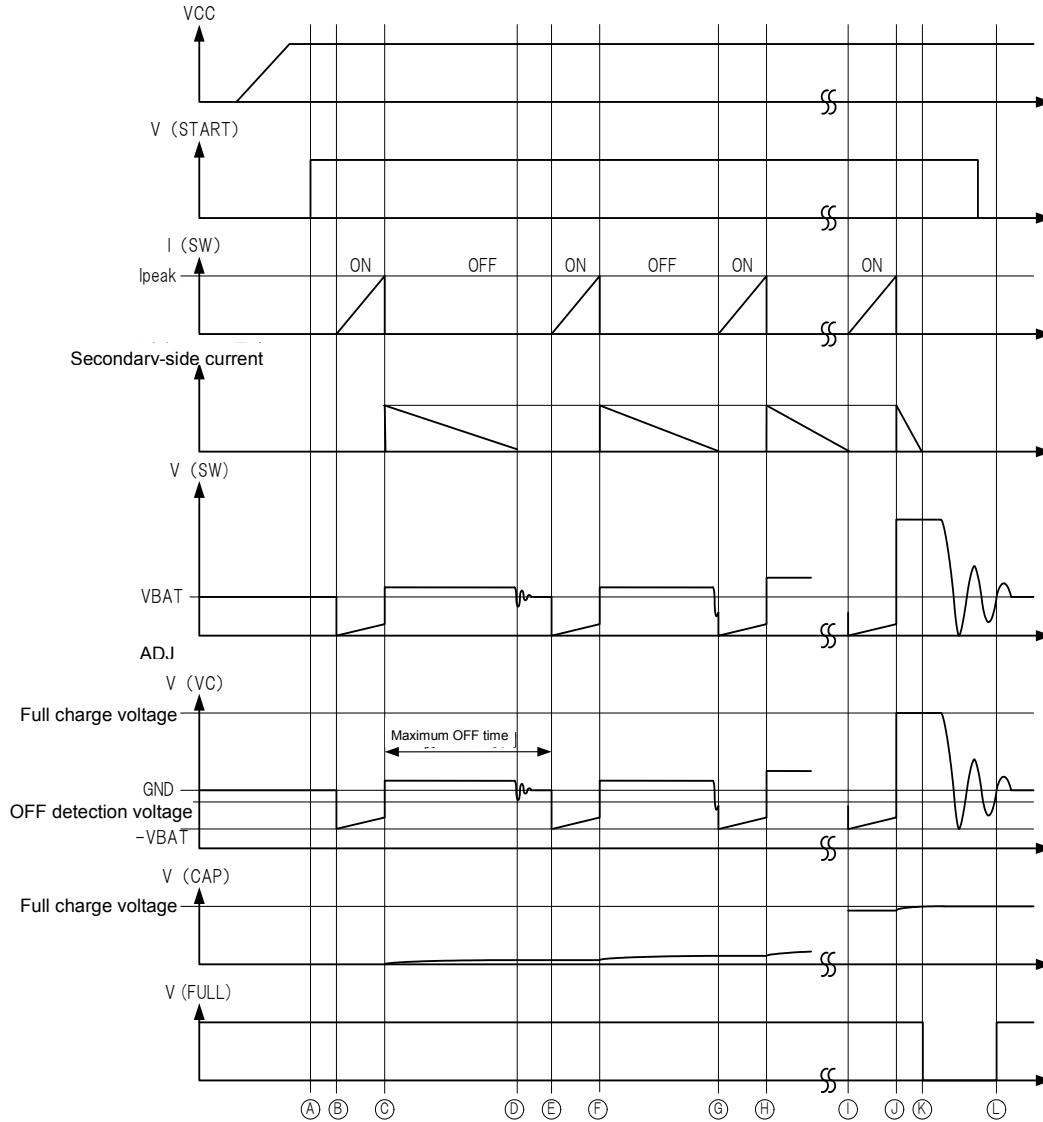

Fig 34. Timing Chart 2: Switching Operation
The switching operation of this IC is shown in Fig.34 Timing Chart 2.
If the START pin is set to "H", all internal circuits are reset, the internal PowerTr is turned ON. (See Fig 34. Time ④→⑤.) While the internal PowerTr is turned ON, a current is passed into the SW pin. When the current specified at the RADJ pin voltage is reached, the PowerTr is turned OFF. (See Time ③ in Fig 34.) The time t_{ON} when the PowerTr is ON is indicated as follows:
When the energy release to the transformer secondary-side is completed, the VC pin voltage and the SW pin voltage produce resonance by the parasitic capacitance and the transformer inductance. (See Time ④ in Fig 34) At this time, unless the VC pin voltage becomes the GND voltage or less shown, the PowerTr remains OFF till the maximum OFF time is reached. (See Time ⑤ in Fig 34) As soon as the OFF detection voltage or less is reached, the PowerTr is turned ON. (See Time ⑥ in Fig 34) The time, t_{OFF} when the secondary-side releases energy is represented by the following equation:
When it is detected that the internal PowerTr is left OFF for over the maximum OFF time specified in the electrical characteristics, the PowerTr is forced to be turned ON. This occurs unless the VC pin voltage becomes the OFF detection voltage specified in the electrical characteristics or less. (See Time ㉛ in Fig 34)
VC pin node is divided by between transformer Secondary node and Fast recovery diode anode side by resistor R_{FB1} , R_{FB2} and R_{FB3} . When VC pin voltage reach until full charge voltage as Fig.34 timing chart ①~④, charge is stopped.